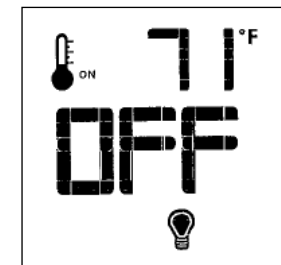

Fig. 15.15. Lamp Control.
- With the Remote ON, press the Mode Key to index to the Lamp icon. Fig. 15.15.